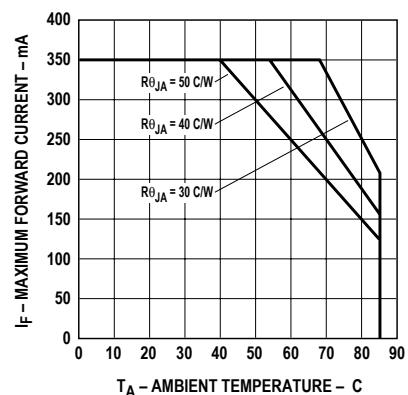

Figure 5. Maximum forward current vs. ambient temperature
1. DC forward current – derate linearly based on Figure 5.